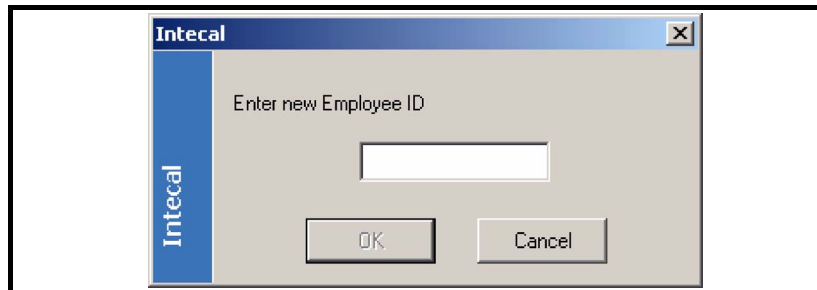

Figure 2-3: *New Employee ID* window
3. When the new *Employee ID* window opens (Figure 2-3), enter a unique number and click on OK.